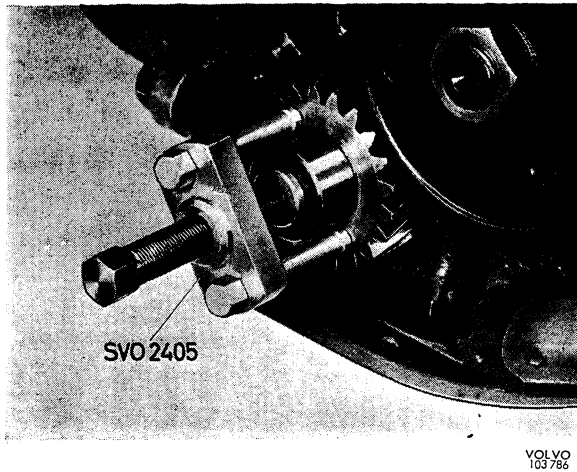
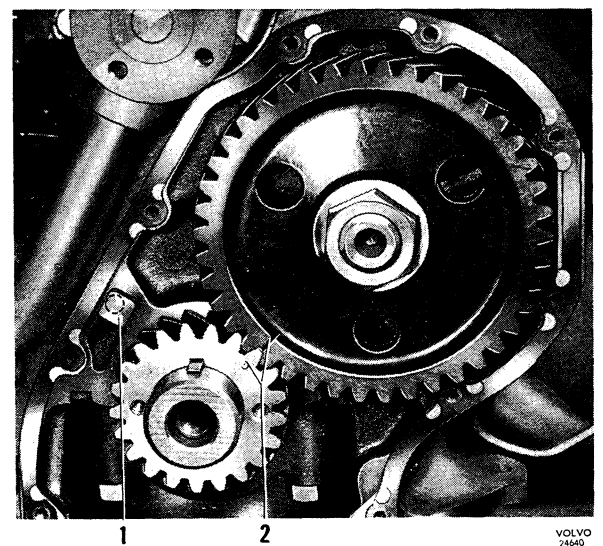

Fig. 2-39. Removing crankshaft gear
Fig. 2-42. Markings on timing gears
5. Pull off the crankshaft gear by using puller SVO 2405, Fig. 2-39. Screw out the oil nozzle, blow it clean and then re-fit it as shown in Fig. 2-42. The gears are lubricated by oil fed through this nozzle.
relative to each other, as shown in Fig. 2-42. Tool SVO 2407 has a socket intended for turning the crankshaft.